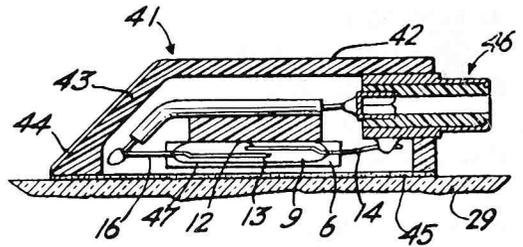

Figure 2.
Fig. 2 is a sectional view of the knob. Inside the knob there is a magnetically-operated reed switch (13) and a bias magnet (6). The weak field of the bias magnet combined with the field of the magnet on the pointer keeps the switch contacts open until a certain critical alignment of the two magnets occurs (as the pointer turns). Then the switch closes and remains closed for further rotation of the pointer (approximately 180°). The switch will open when the pointer drops back to its "safe" position. The point at which the switch closes can be controlled by rotating the knob.